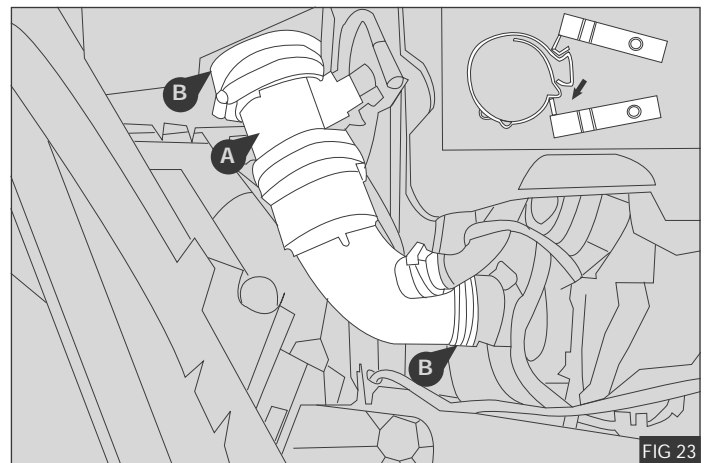

FIG 23
**Note:** Pipe clip (15) torque cap is designed to break off at the correct torque to allow for the expansion and contraction of the spring.
13. Re-fit the turbo hose (A) using the original clic - R® pipe clips (B) - Fig 23